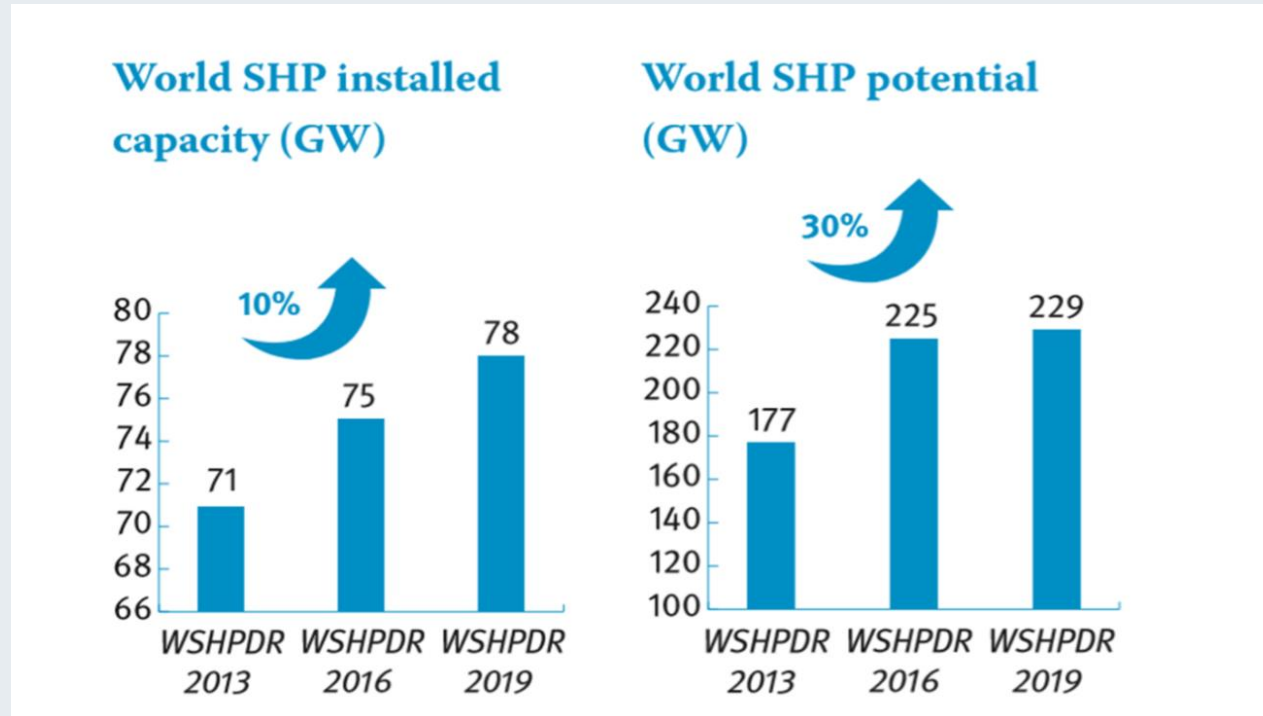

Figure 3. SHP Installed capacity and Potentials
- The installed SHP installed capacity and potentials are presented in Fig.3